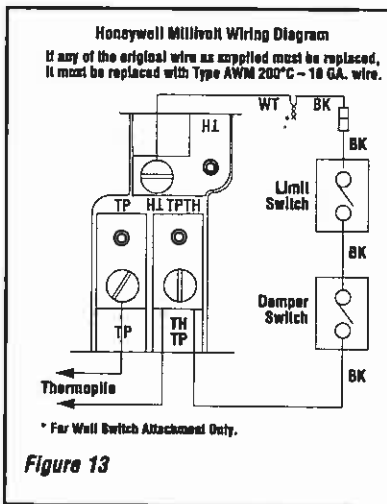

Figure 13
A. Millivolt Wiring - Units may be fitted at the factory with either a Honeywell millivolt gas control valve or an SIT millivolt gas control valve. Both valves have been tested with and approved for use with these appliances and are listed accordingly. Refer to *Figure 13* for wiring of Honeywell systems and *Figure 14* for wiring of SIT systems.
The gas valve has been set in place and has been pre-wired at the factory. No additional wiring is required unless the optional wall switch or optional remote control kit is to be installed. Locate the optional wall switch or optional remote control in the desired location and connect the millivolt wire (*see Figures 13 and 14*).